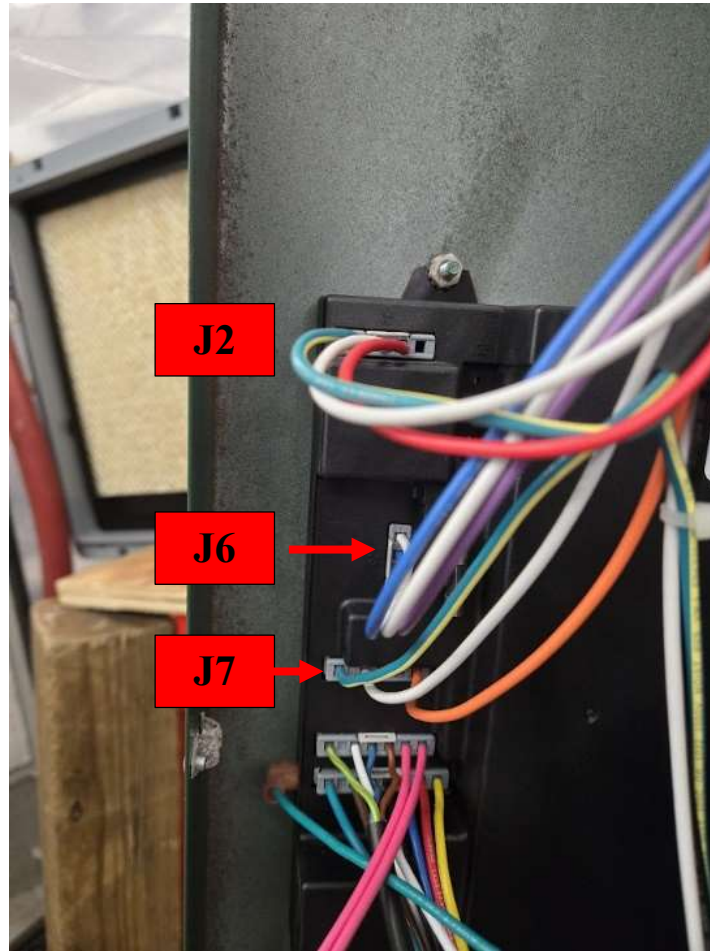

Figure 16: Power Connectors on Control Board
1. Disconnect the J2, J6, and J7 connectors from the left side of the control board shown in Figure 16.